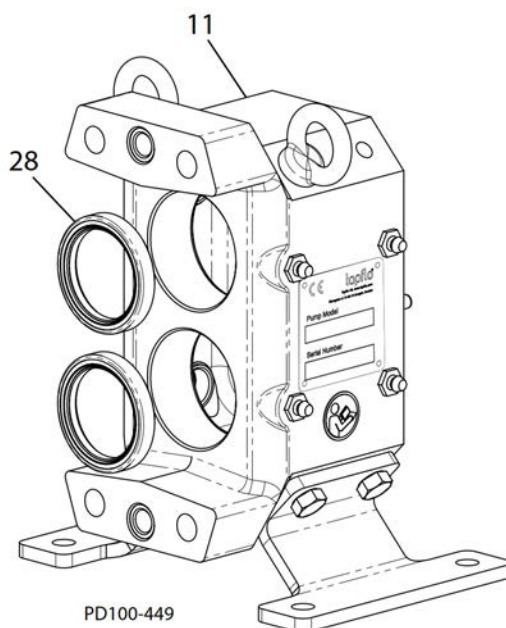

Fig. 44: Install Front Seals
Install new front bearing seals (Figure 44, item 28) into the gear case (item 11) with the primary lip facing toward the inside of the gear case. The seals should be flush with the face of gear case.